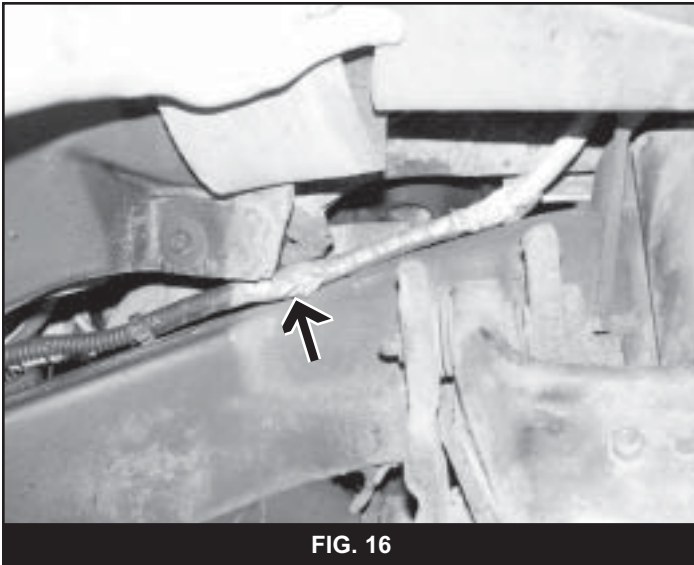

FIG. 16
26. Remove the wire harnesses from the plastic clips on the passenger's side frame rail (Fig 16).